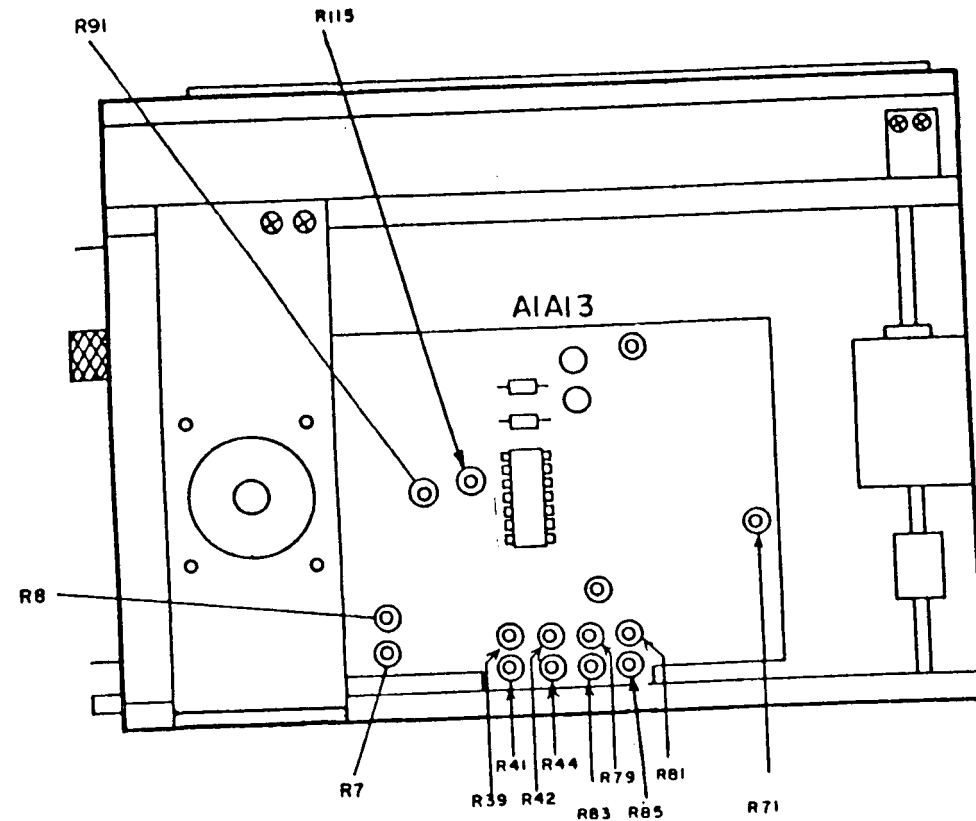

Figure 5. Test instrument - right view.
(1) Adjust A1A13R44 (fig. 5) for an oscilloscope indication of -10 kHz (R).
- (2) Adjust A1A13R39 (fig. 5) until **FREQ ERROR** meter indicates 10 kHz (R).
- (3) Adjust A1A13R44 (fig. 5) for best in-tolerance condition while repeating a(1) through (7) above (R).
- (4) Adjust A1A13R41 (fig. 5) until **FREQ ERROR** meter indicates 4 kHz (R).
- (5) Adjust A1A13R42 (fig. 5) until **FREQ ERROR** meter indicates 1 kHz (R).
- (6) Adjust signal generator amplitude for -107 dBm.
- (7) Set **RCVR WIDE-MID-NARROW** switch to **WIDE**.
- (8) Adjust WIDE BAND GAIN A1A13R7 (fig. 5) until **INPUT LEVEL** lamp (front panel) just illuminates (R)
- (9) Set **RCVR WIDE-MID-NARROW** switch to **NARROW**. Adjust NARROW BAND GAIN A1A13R8 (fig. 5) until **INPUT LEVEL** lamp just illuminates (R)
(10) Set **DEV-PWR** switch to **SIG**. Adjust signal generator amplitude to -25 dBm. Adjust A1A13R91 (fig. 5) until **DEVIATION/WATTS** meter indicates FS (R).
(11) Repeat (6) through (10) above as necessary.
(1) Adjust A1A13R71 (fig. 5) until **DEVIATION (kHz)** meter indicates zero (R).
(2) Set **GEN-RCVR** switch to **GEN** and adjust A1A13R81 (fig. 5) until **DEVIATION (kHz)** meter indicates zero (R). Set **RCVR-GEN** switch to **RCVR**.
(3) Repeat (1) and (2) above as necessary.
(4) Adjust **VAR** control until modulation analyzer indicates **2 kHz**. Adjust A1A13R85 (fig. 5) until **DEVIATION (kHz)** meter indicates **2 kHz** (R).
(5) Adjust **VAR** control until modulation analyzer indicates 6 kHz. Adjust A1A13R83 (fig. 5) until **DEVIATION (kHz)** meter indicates **6 kHz** (R).
(6) Adjust **VAR** control until modulation analyzer indicates 20 kHz. Adjust A1A13R79 (fig. 5) until **DEVIATION (kHz)** meter indicates **20 kHz** (R).